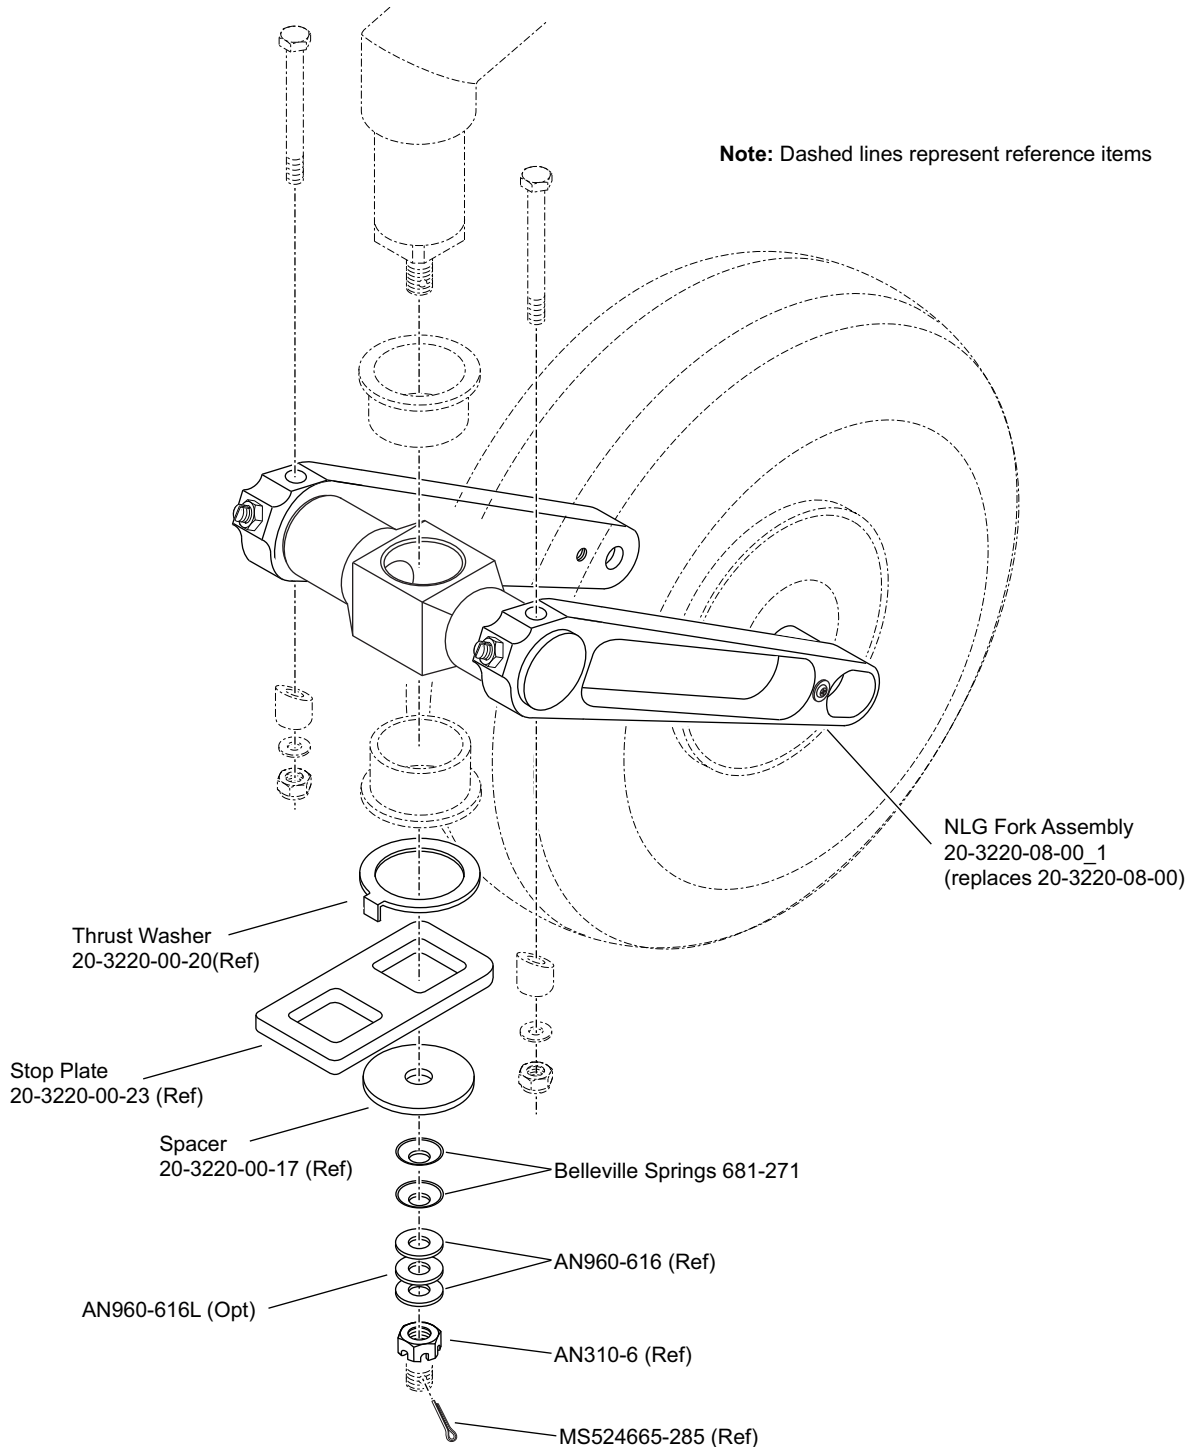

Figure 1 - NLG Fork Assembly Installation
- 10.7 Re install the fork using the new Belleville springs with the rest of the parts listed in figure 1. Be sure that both springs are installed with the open side facing up as per figure 1.